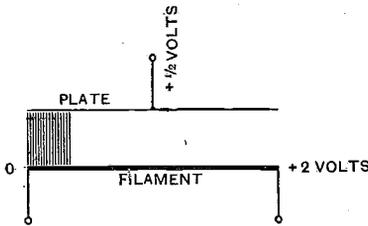

Fig. 1.
**I**N spite of the multiplicity of designs for receivers and the almost inexhaustible variety of circuits which can be employed, there still remains a simple circuit which has not lost in popularity through the introduction of so many competitors. The combined detector and one stage low frequency amplifier (Fig. 1) still maintains its popularity amongst amateurs throughout the world. Such a receiver is used by nearly all amateurs as a general standby set, and daily records of long distance reception are sufficient to indicate that its efficiency leaves little to be desired in the hands of a careful operator. It has, moreover, the advantage that it is com-
**S**UPPOSE that in a two-electrode valve, Fig. 1, the fall of potential across the filament is 2 volts. If the plate is now given a potential of  $+\frac{1}{2}$  volts relative to the negative end of the filament, only the first quarter of the length of the filament is at a lower potential than the plate. Electrons can only flow therefore from this portion of the filament (neglecting for the present such disturbing factors as velocity of emission, space charge, etc.). So by measuring the current from the plate for different values of the plate potential from 0 to +2 volts, the current from successive fractions of the length of the filament may be determined.